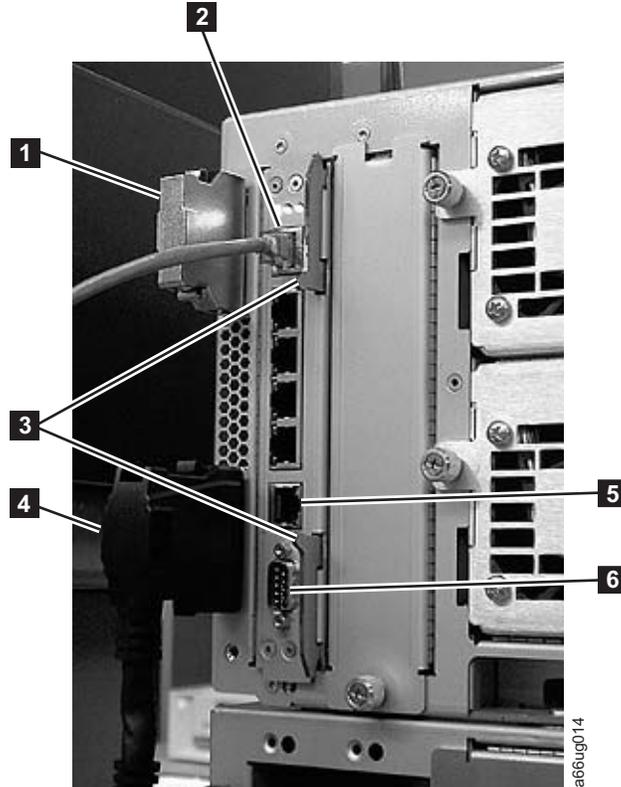

Figure 8-27. Library Control Blade (LCB)
2. On the LCB (Figure 8-27), disconnect the Ethernet cable (**2** in Figure 8-27) by pinching the tab to disengage the cable, and then pull the connector out of the LCB.
**Note:** Six slots reside below the Ethernet cable. The four topmost slots are reserved for future use. The two bottommost slots are designated as Ethernet (**5** in Figure 8-27) and serial (**6** in Figure 8-27) ports, and are reserved for use by IBM Service Personnel.
3. Grasp the pair of latches (**3** in Figure 8-27 on page 8-30) near the top and bottom of the LCB. Simultaneously push the latches to the left, and then pull them out and away from the LCB.